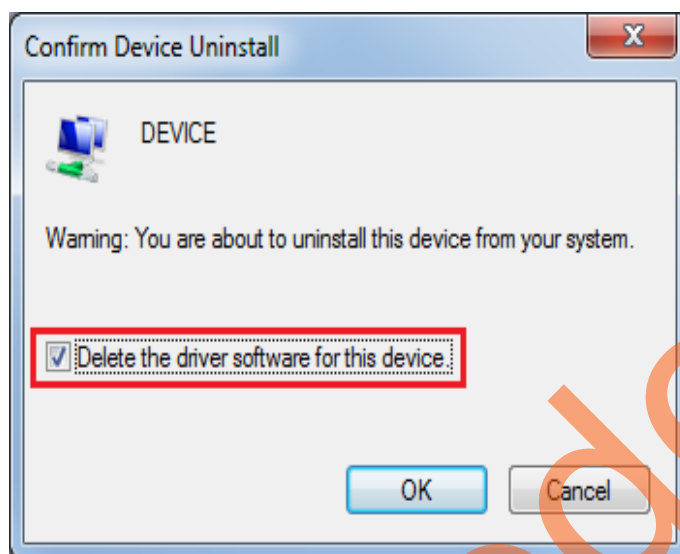

Figure 11 • Confirm Device Uninstall Dialog
- b. From the **Confirm Device Uninstall** dialog, select **Delete the driver software for this device** and click **OK**. After uninstalling previous Jungo drivers, make sure that the PCI Device is detected in the **Device Manager** window. See Figure 11.